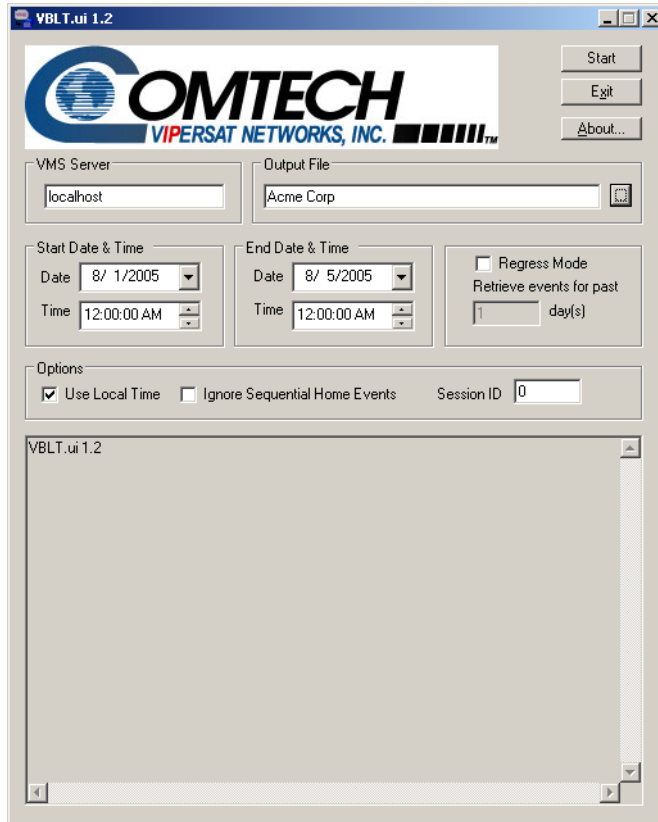

Figure H-1 VLBT graphic user interface
1. Enter the start date and time in the **Start Date & Time** box shown in figure H-1.
2. Enter the s end date and time in the **End Date & Time** box shown in figure H-1. The end date and time must be greater than the start date and time.